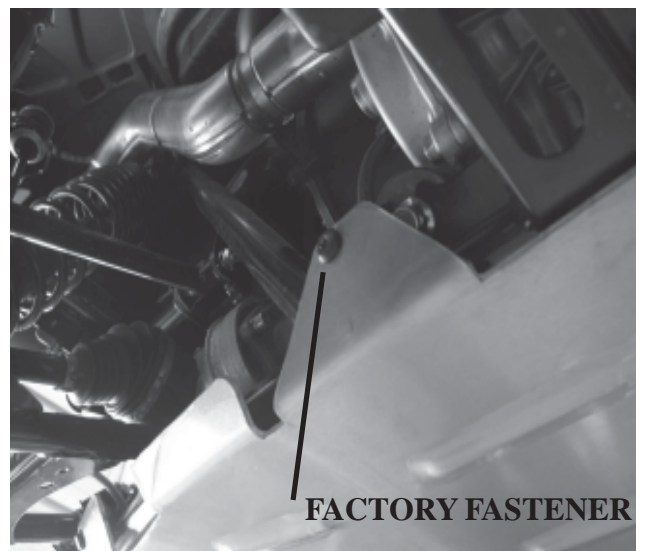

Figure 8
- Fasten the tabs located just in front of the rear tires with the 2 fasteners removed in steps 2 and 3, figure 8